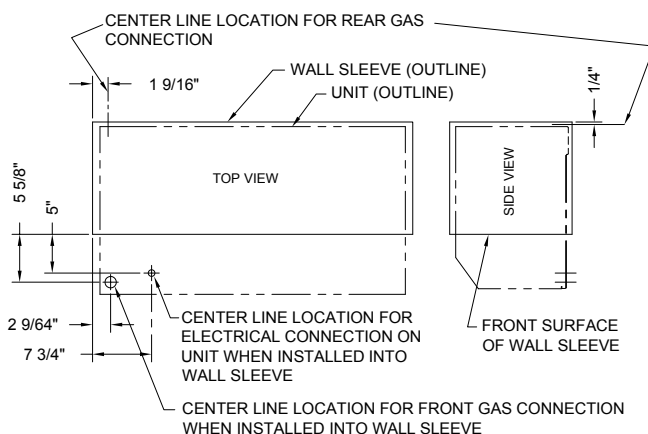

Figure 10
8. Connect gas and electrical supply. Refer to Figure 10 for centerline location of gas connection and electrical connection when unit is installed into wall sleeve.